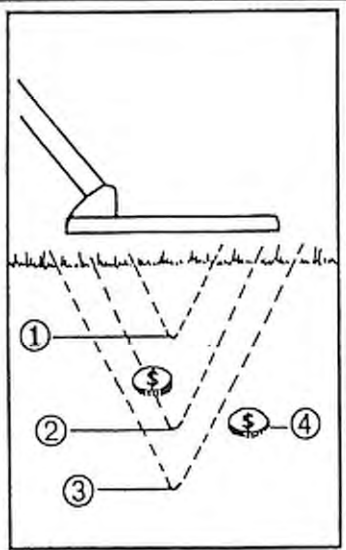

Figure 7. The effects of sweep speed, ground mineralization and search mode.
11. Figure 7 shows the CZ-6 search coil pattern and how it is affected by sweep speed, ground mineralization and search mode.